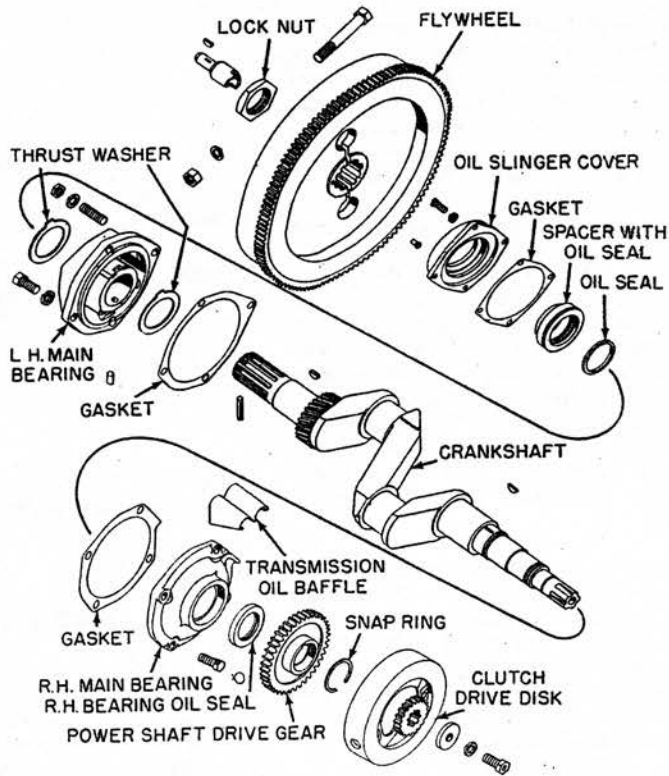

Fig. 16A Exploded view of Model 60 crankshaft and related parts. Model 50 is similar
**MODELS 50, 60**—As shown in Fig. 16A, the right main bearing housing contains two single oil seals installed back to back to prevent mixing transmission oil with engine oil in the first reduction gear cover. An oil seal and oil slinger control the oil flow at the left main bearing, directing it back to the crankcase.